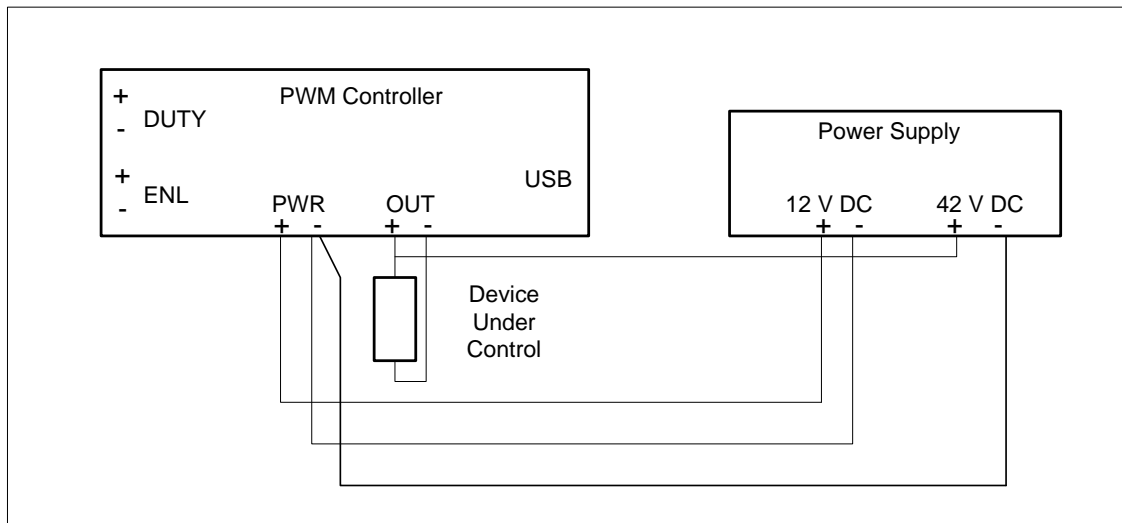

Figure 3.2-2 PWM Controller - Dual Supply Connection.
(2) The positive input is internally connected to a protective diode (see figure 4-1). If operating in a dual supply load and the diode is not needed, then the positive connection to OUT+ is not required (see figure 3.2-2). The positive side of the load may be directly connected to the power source.
Figure 3.2-2 illustrates the recommended connection for a dual power supply connection (analog and external enable control inputs not shown for clarity). This configuration would be used for a load that is under test whose operational voltage is not in the PWM Controller operating range of 9V to 24V DC. The PWM Controller must be supplied 9V to 24V DC for its operating power. The output of the unit may operate at any voltage from 5V to 50V (within the recommended power specifications – see Section 2). In this case, 42V DC is required for the device under control (load).